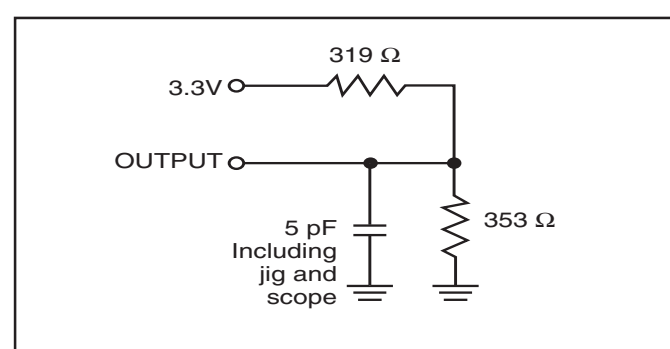

Figure 2.
- Tested with the load in Figure 2. Transition is measured ± 500 mV from steady-state voltage. Not 100% tested.
3. Tested with the load in Figure 2. Transition is measured ± 500 mV from steady-state voltage. Not 100% tested.